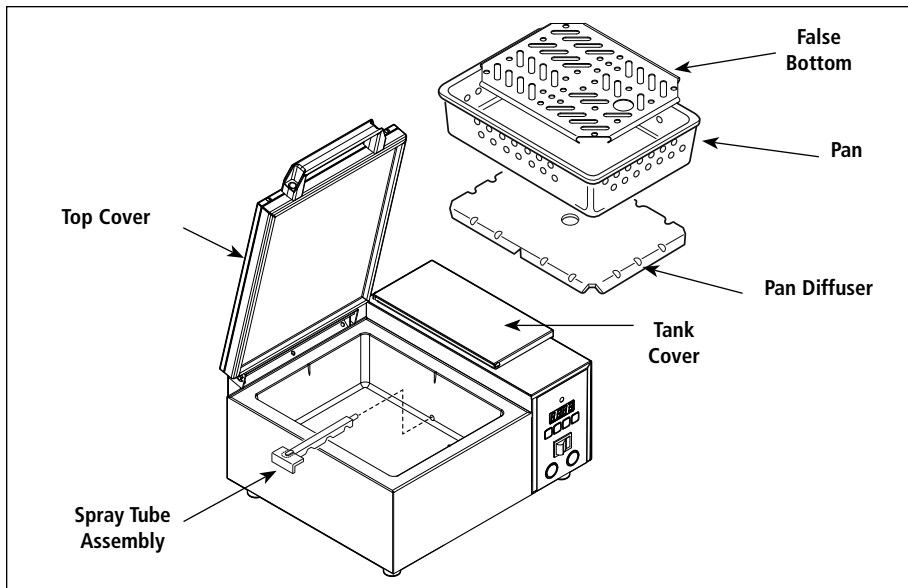

Figure 5. Components (DFW-150 Shown)
3. Remove the False Bottom, Pan, and Pan Diffuser (Figure 5).
5. Wipe down the Top Cover and the entire exterior of the unit (Figure 5) with a clean, hot, damp cloth (not dripping wet) and wipe dry.
3. Remove the Spray Tube (Figure 5) by lifting the loose end and pulling it out of the generator hole.